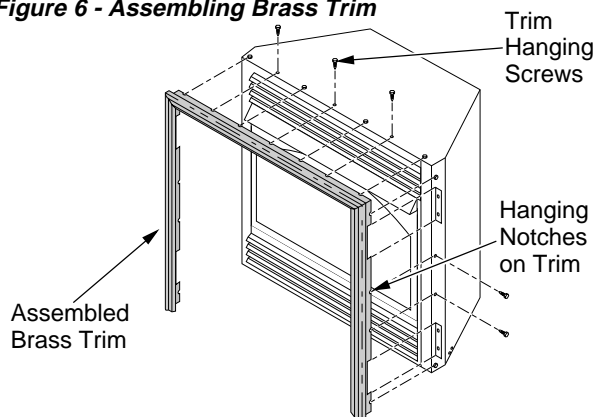

Figure 7 - Attaching Brass Trim to Fireplace (VSGF33NR Shown)
8. Tighten trim hanging screws (#10 x 6.25 shoulder) into holes in cabinets. Place the assembled trim onto fireplace cabinet. Align hanging notches on trim with hanging screws on side of fireplace (see Figure 7). Push trim firmly into place, sliding hanging notches over hanging screws.
10. Install brass trim after final finishing and/or painting of wall (see Figure 7, page 8).